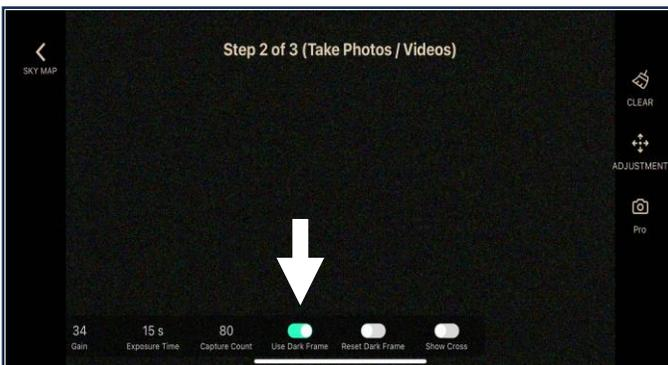

Fig. 5.2
3. **Enable Feature:** Tap the "Use Dark Frame" button at the bottom. See Fig. 5.2.